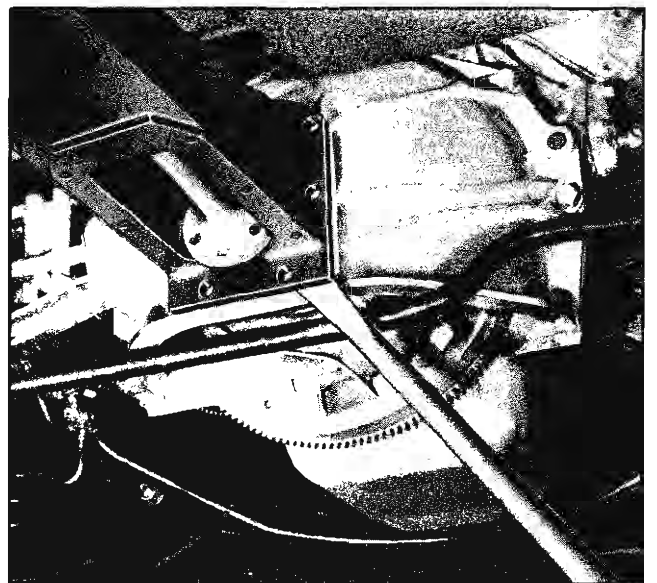

Fig. 4-14 Removing Torque Tube and Propeller Shaft from Flywheel Housing
11. Pry torque tube and propeller shaft away and down from flywheel housing (Fig. 4-14).